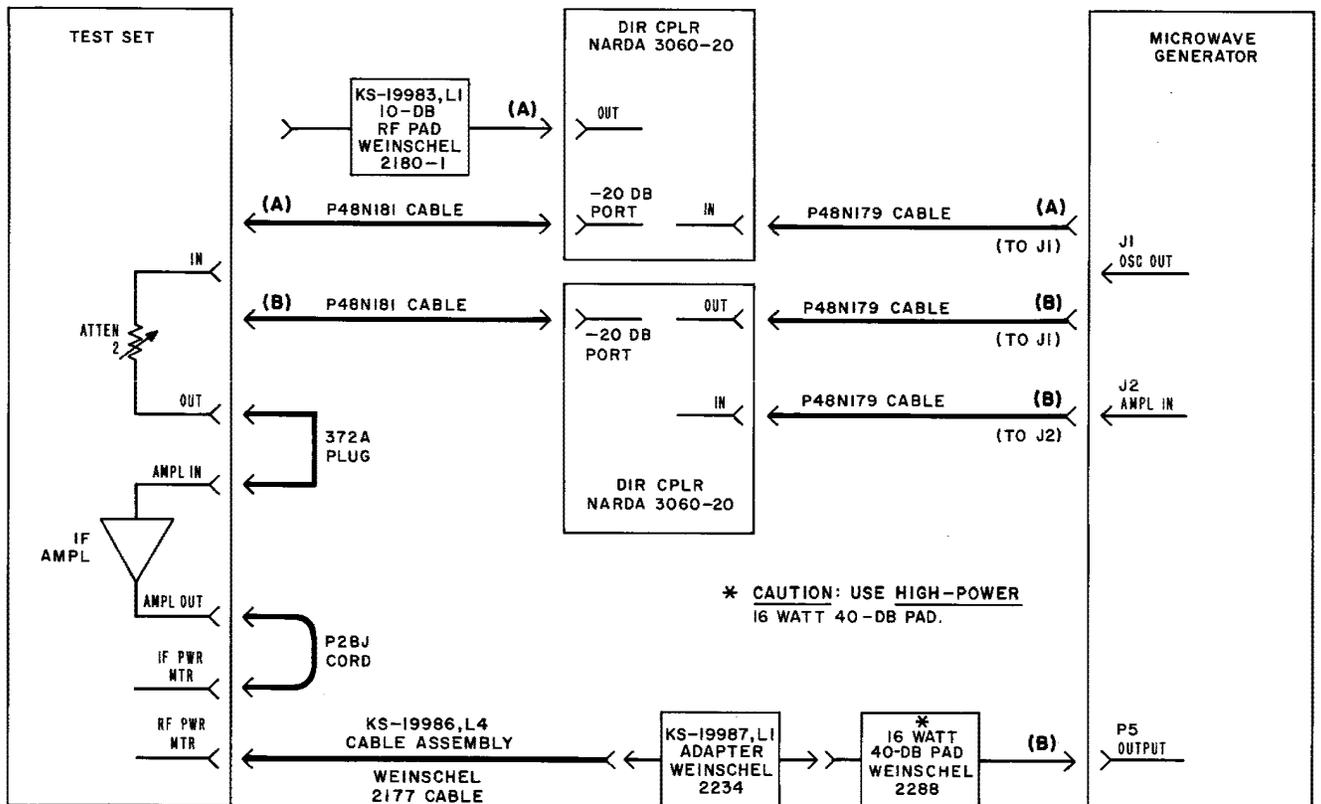

Fig. 3—Test Setup for Microwave Generator—Return-Loss Tests
| 1 | Make connections in accordance with Fig. 3, option (A). |
5	Set up the test connections in accordance with Fig. 3, option (B).